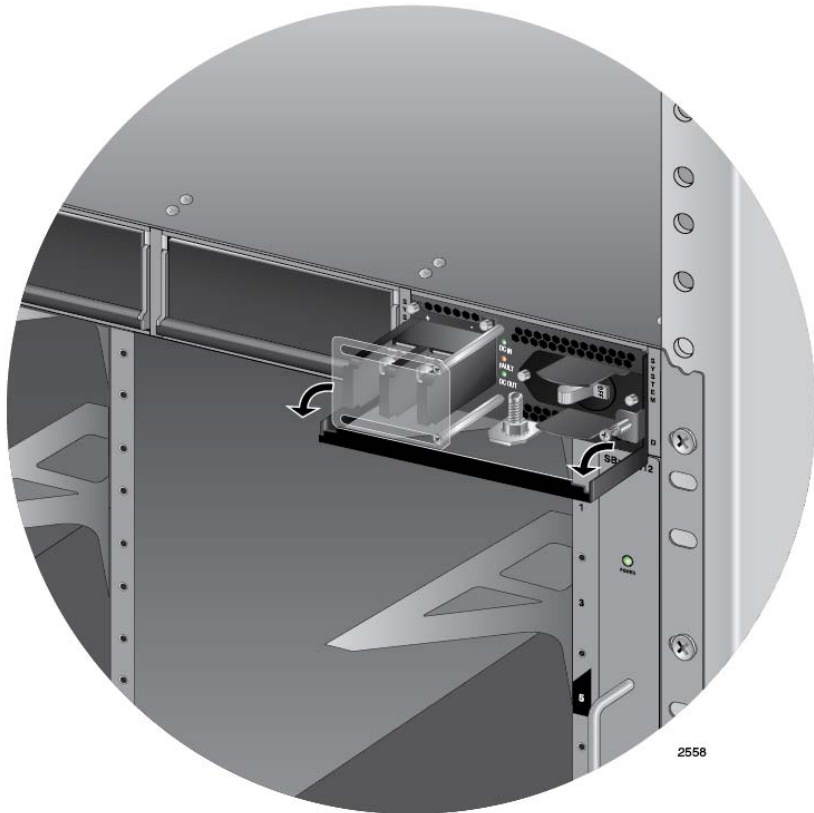

Figure 68. Locking the Handle on the AT-SBxPWRSYS1 DC System Power Supply
7. Lower the locking handle of the power supply module to secure the module in the slot, as shown in Figure 68.